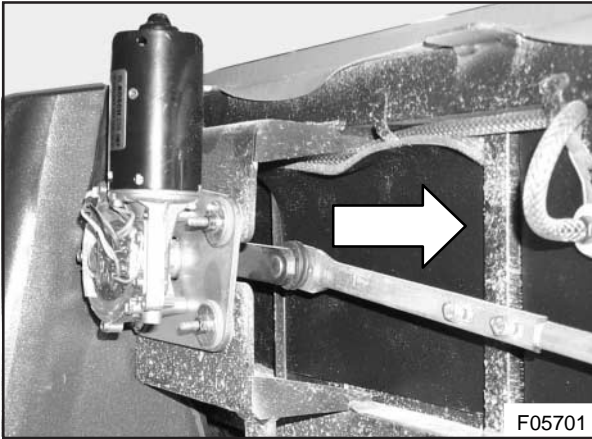

Figure 14: Wiper linkage, final installation with right-hand wiper tie bar pointing towards coach access door
- 10) Reset the wiper motor to the parking position by switching it to slow wiping and off again. Check that the bell crank and clamp are horizontal, with the right-hand wiper arm tie bar knuckle pointing to the coach access door (see Figure 14).